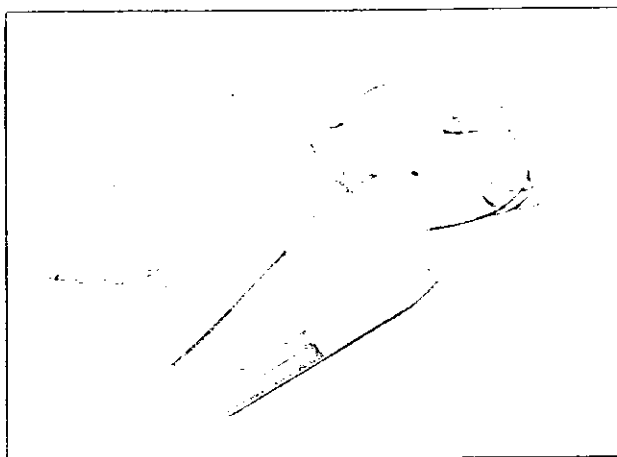

Fig. BF-13 Tools for installation of windshield glass
2. Apply adhesive to the appropriate portions on the weather strip as shown in Figure BF-13, and apply the weather strip to the windshield glass.